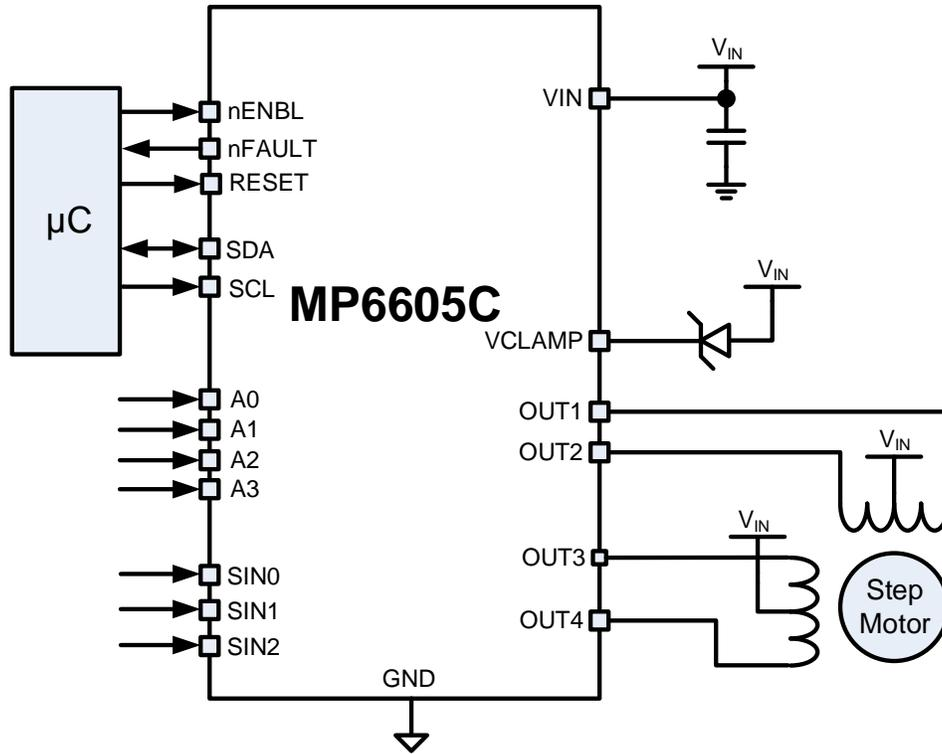

Figure 4: The MP6605C
The MP6605 family consists of the MP6605C, MP6605D, and MP6605E. These parts offer the same main features, and varying control interfaces. They are 4-channel low-side driver ICs with integrated low-side MOSFETs (LS-FETs) and high-side (HS) clamp diodes for unipolar stepper motors. Figure 4 shows the typical application circuit for the MP6605C.